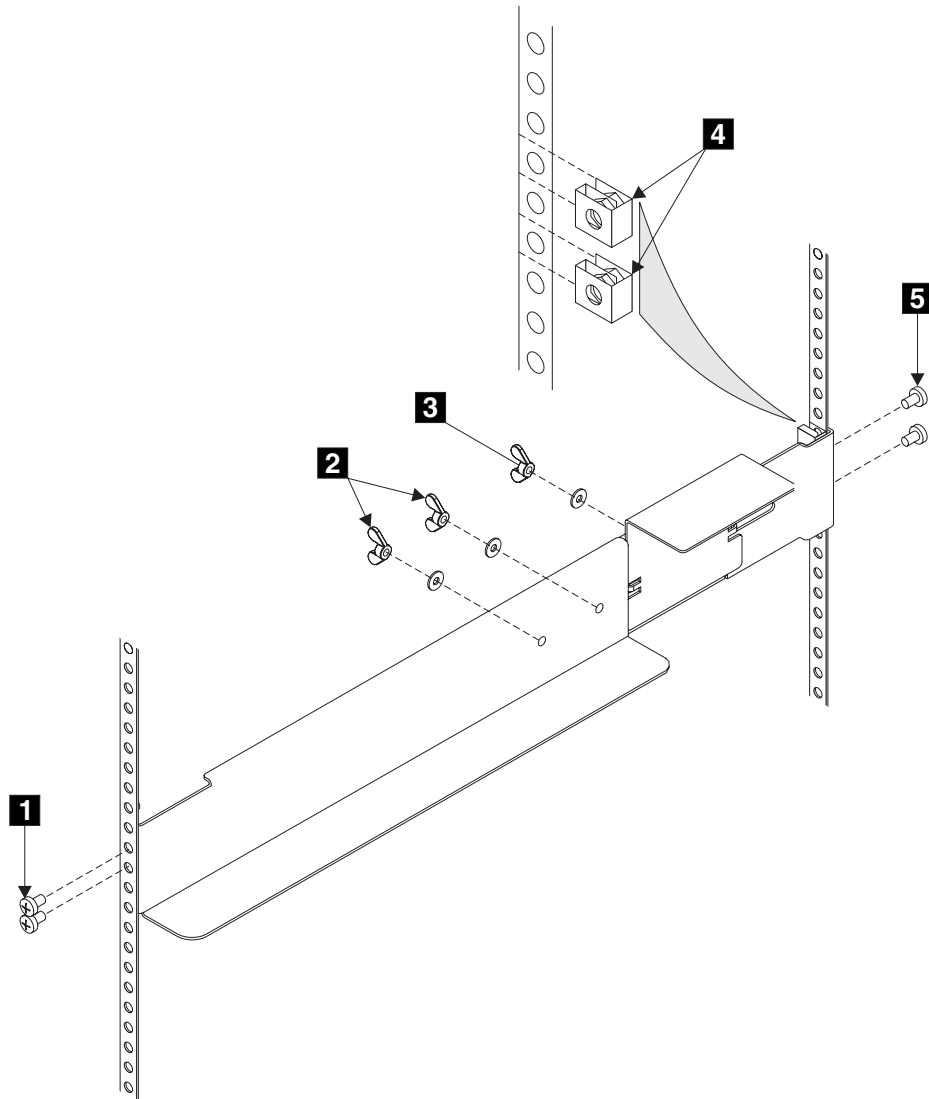

Figure 131. Installing support rails for a uninterruptible power supply into the rack
3. At the back of the rack, observe the EIA positions, and determine where you are going to install the uninterruptible power supply (see Figure 131 on page 214). A uninterruptible power supply must always be installed into the lowest available position in the rack. The only device that can be below a uninterruptible power supply is another uninterruptible power supply.